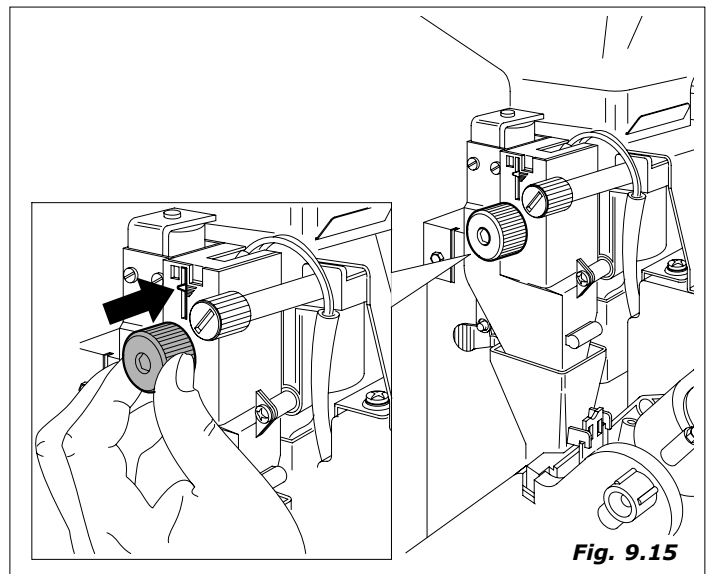

Fig. 9.15
- *Ground coffee gram weighting:* vary the quantity using the knob positioned on the measuring device (Fig.9.15). Each notch of the regulation knob corresponds to a value of 0.05 grams.
The variation in the product can be controlled by means of the reference notches on the body of the measuring unit (see figure 9.15)